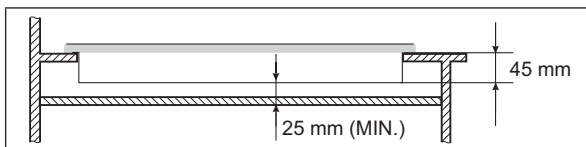

Fig. 4
- If there is an appliance located under the hob, there must be at least a 25mm gap between these two appliances (see Fig. 4).